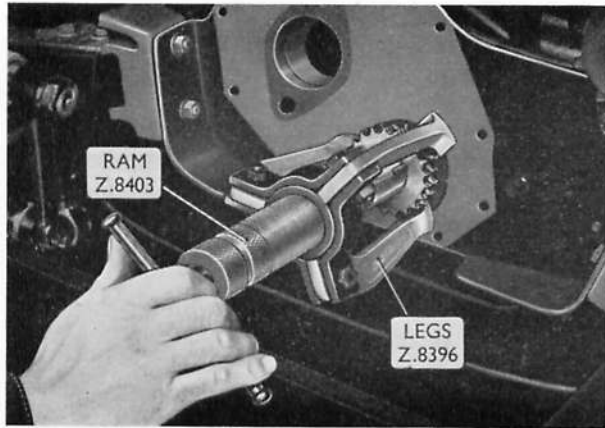

Fig. A.42. Removing the crankshaft timing wheel
11. Where necessary, withdraw the crankshaft timing wheel (Fig. A.42). Use packing at the end of the drag ram to avoid damaging the threads in the end of the crankshaft.